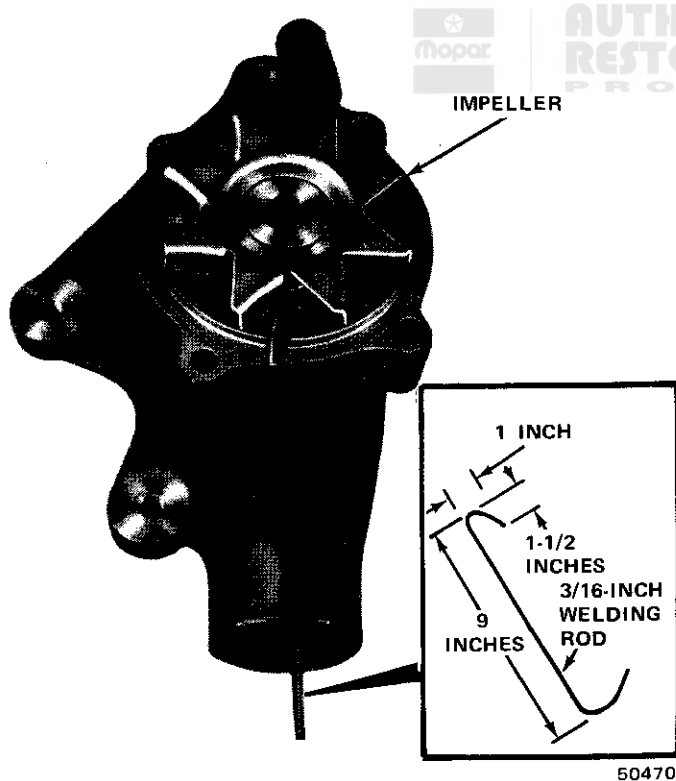

Fig. 1C-10 Checking Water Pump for Loose Impeller—Typical
- (1) Drain radiator.
- (2) Loosen fan belt.
- (3) Disconnect lower radiator hose from water pump.
- (4) Bend stiff clothes hanger or welding rod as shown in figure 1C-10.
- (5) Position rod in water pump inlet and attempt to turn fan. If impeller is loose and can be held with rod while fan is turning, pump is defective. If impeller turns, pump is OK.
- (6) Connect hose and replenish coolant, or proceed with further repairs.